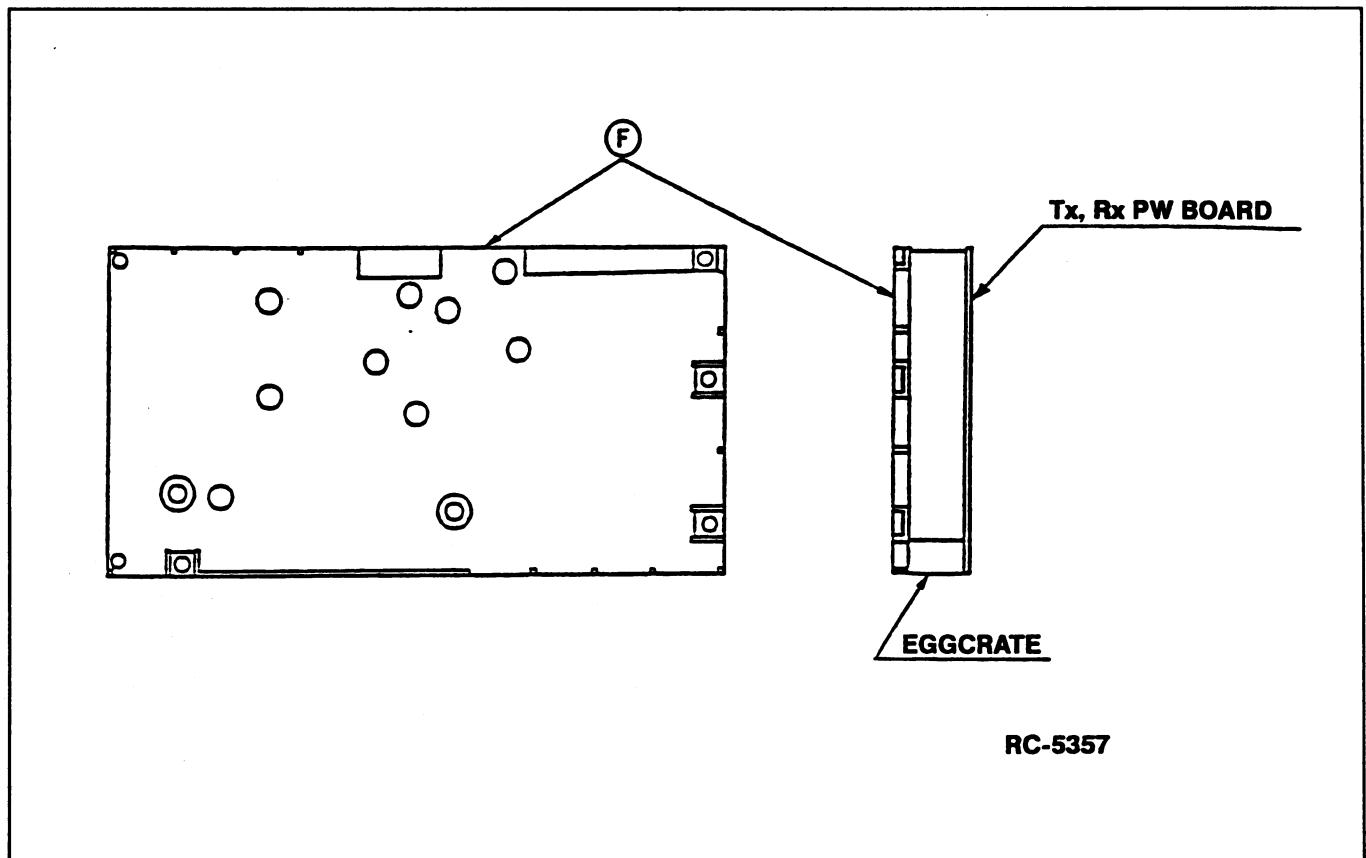

FIGURE 14 - DISASSEMBLY STEP 5
5. Remove the shield cover [F] from the eggcrate (Figure 14).